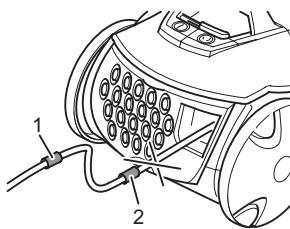
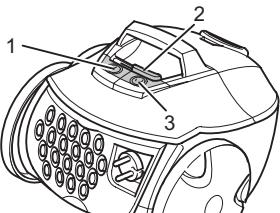

Fig. 10
Fig. 11
- Remove the cable, by holding the plug, until the yellow mark is reached (Fig. 10/1).
If the red mark (Fig. 10/2) is visible, use the cable retract button (Fig. 11/3) to draw the cable in again up to the yellow mark. Otherwise the cable can break off. There is a risk of electric shock.
- Switch on the cylinder vacuum cleaner using the on/off switch (Fig. 11/1).
- Turn on the suction using the suction controller (Fig. 11/2).